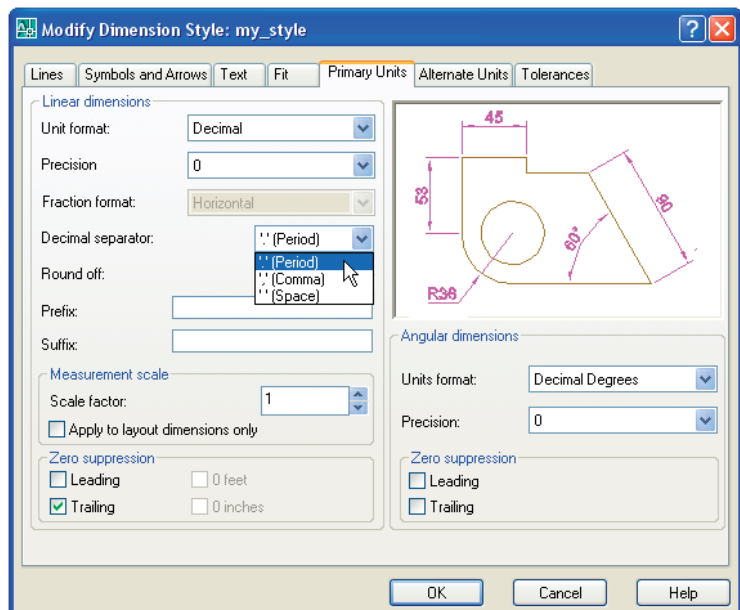
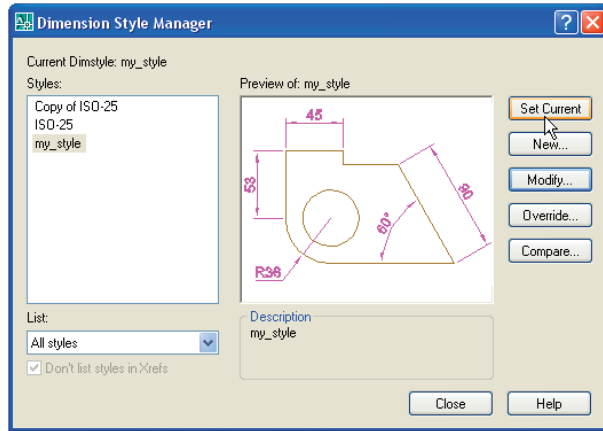

Fig. 4.14 Setting units in the **Primary Units** sub-dialog
Fig. 4.15 Click the **Set Current** button
6. Then *click* the **Primary Units** tab and set the units **Precision** in both **Linear** and **Angular dimensions** to **0**, that is no units after decimal point. *Click* the sub-dialogs **OK** button (Fig. 4.14). The **Dimension Style Manager** dialog reappears showing dimensions, as they will appear in a drawing, in the **Preview of: my_style** box. *Click* the **Set Current** button, followed by another *click* on the **Close** button (Fig. 4.15).